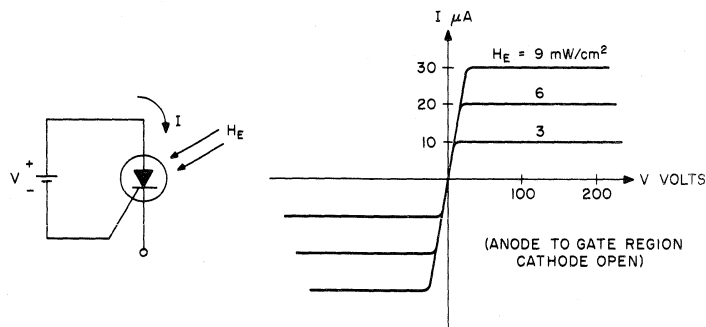

Fig. 8 - Typical pnp phototransistor action of LASCER.
Figure 8 shows that the LASCER contains a high voltage phototransistor pnp between the anode (A) and gate (G) terminals. Due to physical construction details, this "transistor" is of low gain and behaves as a symmetrical transistor, i.e., emitter and collector regions are interchangeable. Due to the low gain, photo response is quite stable in this configuration. In fact, this connection has been used with calibrated units for measurement of irradiance.